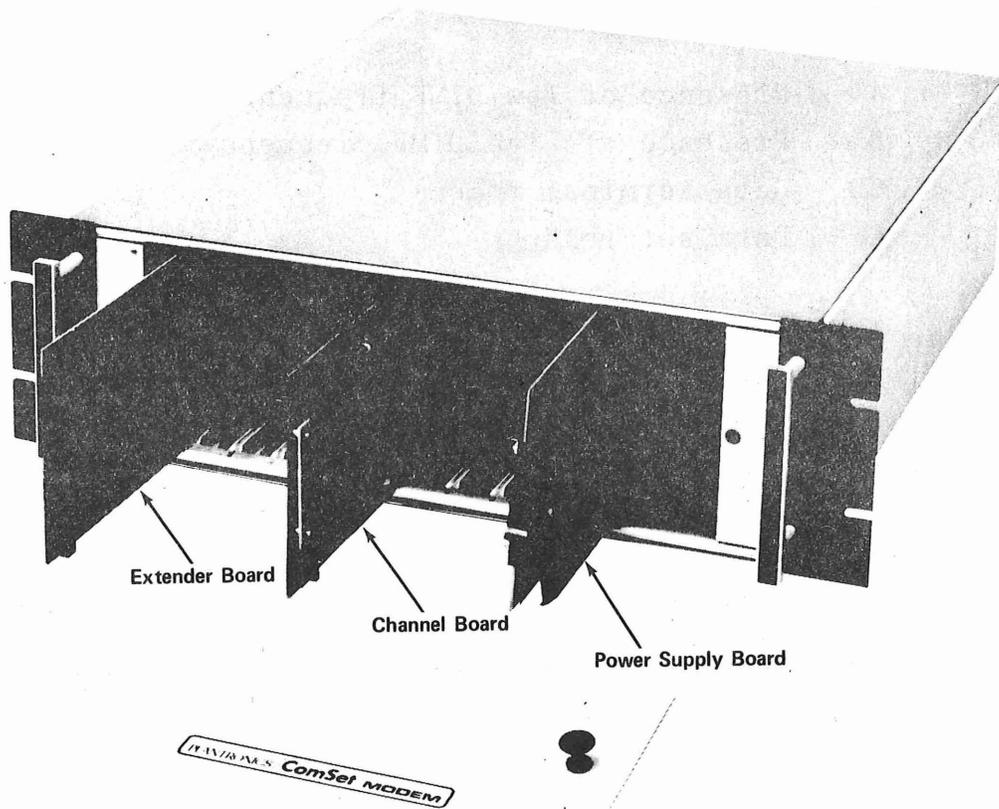

Figure 2-1. Modem with Front Panel Removed
2.02 Plug-in circuit cards (figure 2-1) are as follows:
- (d) Verify that power supply board is seated in slot 10 (see figure 2-1). When viewed from the front of the shelf, the slots are numbered left to right, 1 through 10.
- (e) Insert individual channel boards, as required, in any of the slots 2 through 9 (see figure 2-1).
- (f) Insert extender board (if purchased) in slot 1 (see figure 2-1).